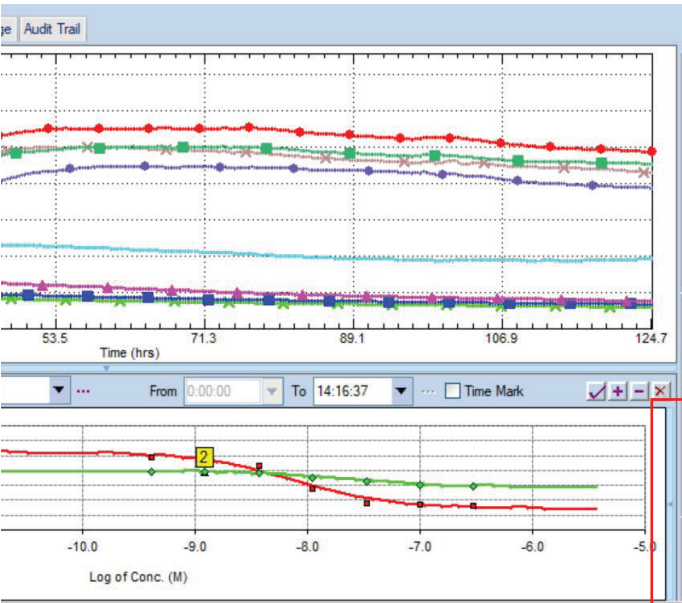

Figure 11. The arrow button that displays the IC₅₀ values and R² table (indicated with a red rectangle).
- To display the IC₅₀ value and R² table, click the blue arrowhead indicated in Figure 11.